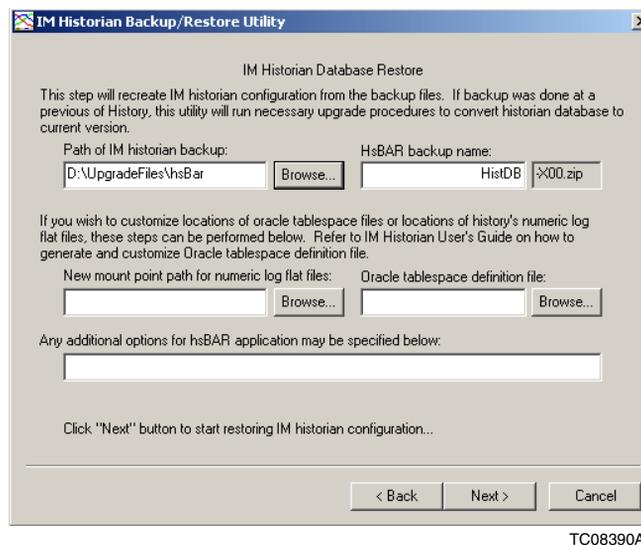

Figure 18. IM Historian Database Restore Dialog
5. Click **Next**. IM Historian Database Restore dialog appears as shown in Figure 18.
- Specify the location of the backup files in the **Path of IM historian backup:** field (Figure 18).